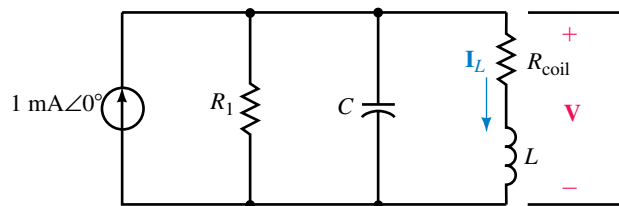

FIGURE 21–68
28. Determine the values of R_1 and C for the resonant circuit of Figure 21–68 so that the given conditions are met. Solve for the voltage, V , across the circuit.